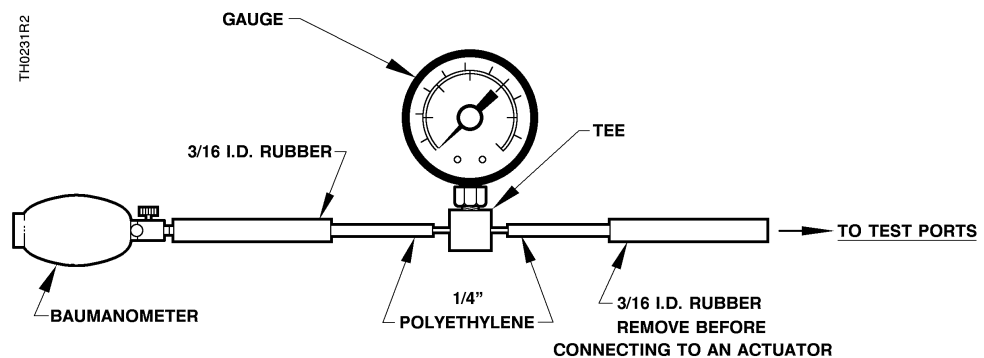

Figure 9. Pressure Gauge Assembly.
- Pressure Gauge Assembly (see Figure 9)
4. Construct Pressure gauge assembly as shown in Figure 9.